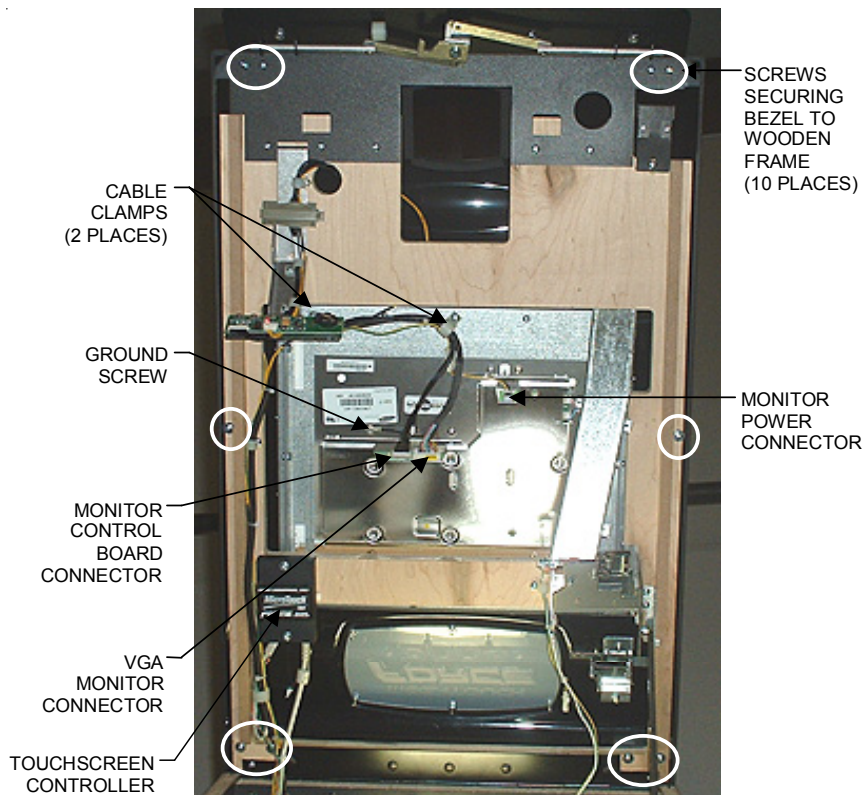

FIGURE 12 - FORCE FUSION - UNDERSIDE OF BEZEL
3. Disconnect the VGA monitor connector and ground screw, the monitor control board connector, and the monitor power connector and also remove the cables from the 2 clamps attached to the monitor. See Figure 12.
4. Remove the screws fastening the touchscreen controller to the game and disconnect the cable from the back of the controller. Then locate and disconnect the Molex connector (orange and gray wires) running from the touchscreen controller cable to the main power harness. After disconnecting the ground screw, pull the cables out of the clamps. See Figures 12 and 13.
5. Remove the 10 screws securing the plastic bezel to the wooden frame (see Figure 12) and carefully remove the bezel from the game. Be careful not to damage the bezel with the coin cup during removal.
11. Carefully replace the plastic bezel assembly in the game, making sure the coin cup protrudes into the lower cutout and no wires are pinched, then secure it to the wooden frame with the 10 screws (see Figure 12).
13. Reconnect the VGA monitor connector and ground screw (do not overtighten), the monitor control board connector, and the monitor power connector (see Figure 12) and replace the cables in the 2 clamps attached to the monitor.